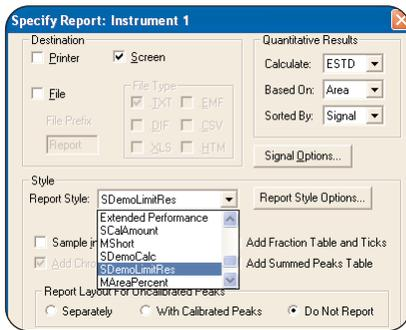

Figure 5
Step 5: In the *ChemStation Report* dropdown menu, select *Specify Report*, then select your template under *Report Style* (figure 5).